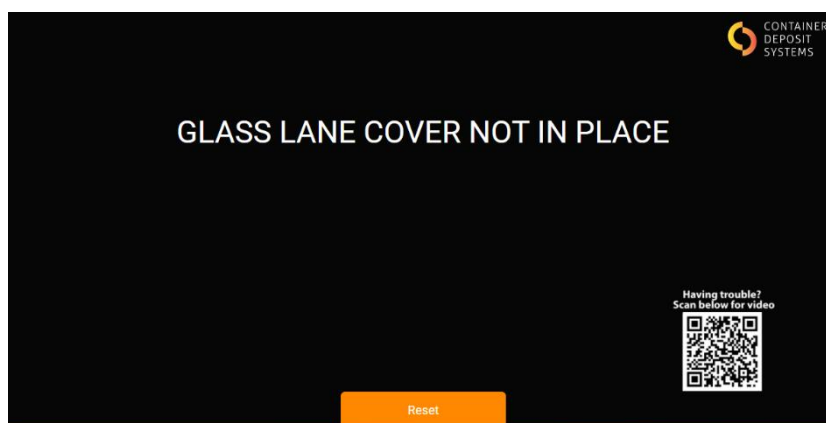

Figure 40. Conveyor cover Fault
- If the safety switch is activated the screen will appear (mixed lane shown) as in Figure 40.